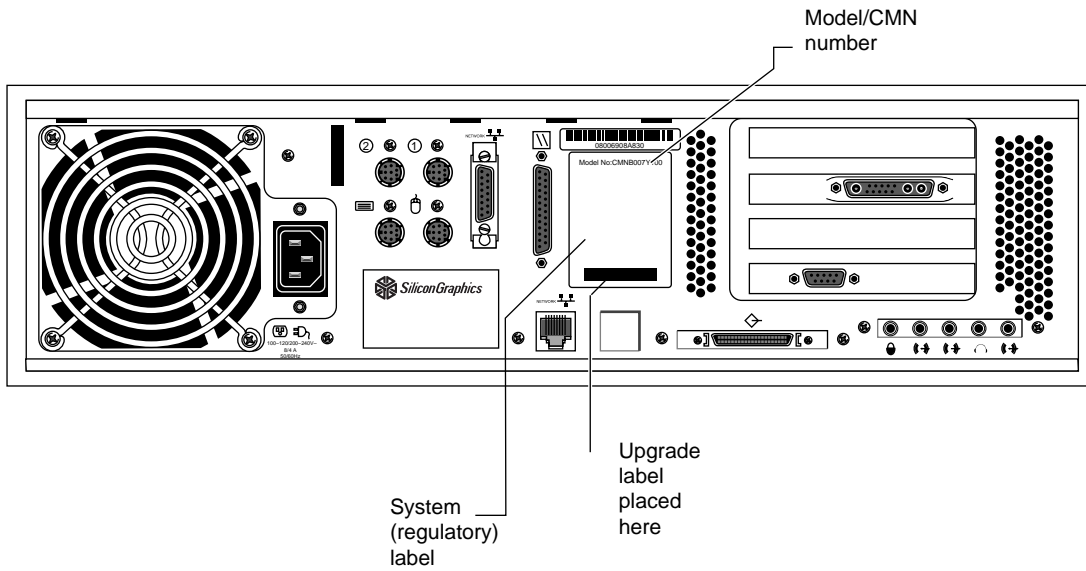

Figure 2-36 Placements for Model Number and System Regulatory Labels
2. Install the upgrade label that indicates the new Silicon Graphics model number of the system. Affix the label at the rear of the system, covering part of the old label (see Figure 2-36).
- For a “full-size” label, place it over the full-size regulatory label on the rear of the workstation (see Figure 2-36).
- For a “half-size” label, place it below the logos and over the lower portion of the regulatory label on the rear of your workstation (see Figure 2-36).
4. Determine your CMN model number. This number is required by various regulatory groups to help identify your Declaration of Conformity. You can determine your CMN number by cross-referencing the regulatory label designation (see Figure 2-36) against information contained at the following web address: